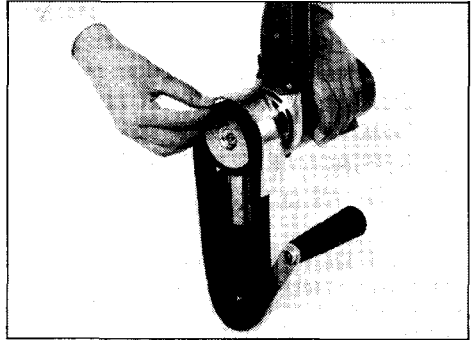

Fig. 3
1. Hold tool as shown in Fig. 3, pressing down on pulley to slacken belt. Then remove it.